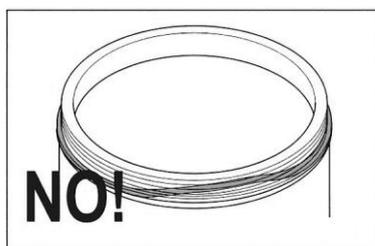

Fig. 32
2. In Fig. 32 an incorrectly fixed gasket is shown; in this case, the gasket is NOT arranged evenly along the entire edge of the tank.